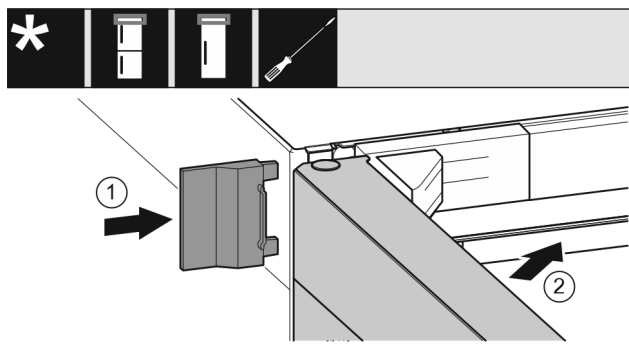

Fig. 24
- Push the outer cover Fig. 24 (1) on.
- Close the upper door Fig. 24 (2).